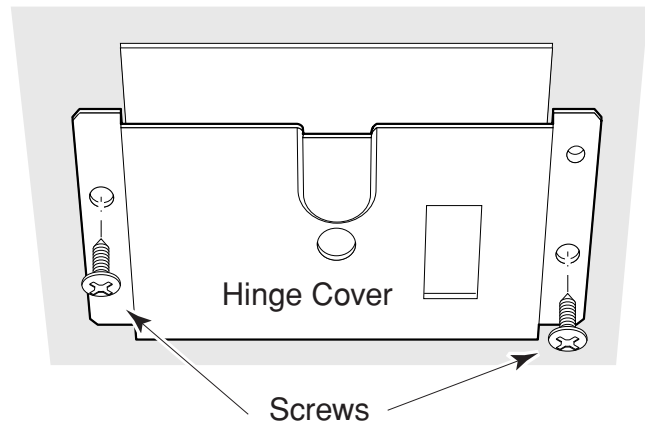

Figure 3-4
7. Remove the two screws from each of the two hinge covers at the rear of the burner box (see Figure 3-4).